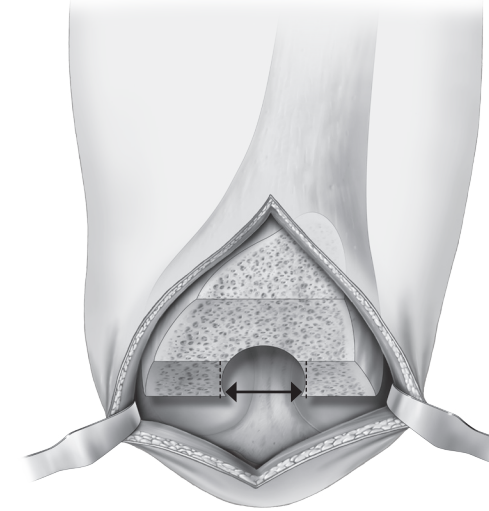

Figure 2
Step 7: Due to the cylindrical shape of the Notch Cutting Guide, it is necessary to remove a small amount of excess bone from the distal femur (Figure 2).